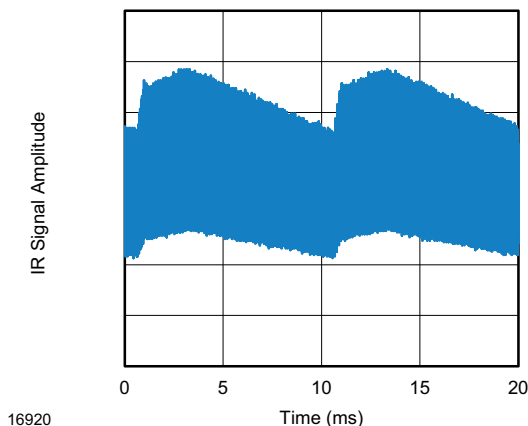
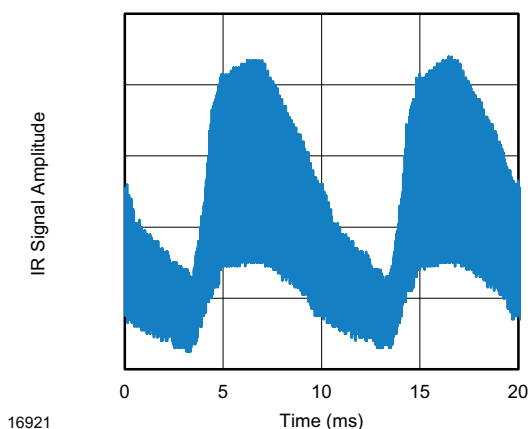

Fig. 13 - IR Disturbance from Fluorescent Lamp With Low Modulation
Fig. 14 - IR Disturbance from Fluorescent Lamp With High Modulation
- Strongly or weakly modulated patterns from fluorescent lamps with electronic ballasts (see Fig. 13 or Fig. 14).